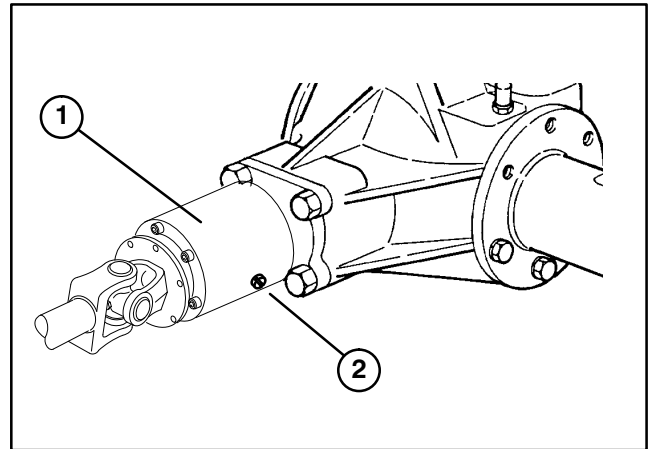

Figure 23
2. Rotate clutch so check plug is positioned at 4 O'clock (Fig. 23).